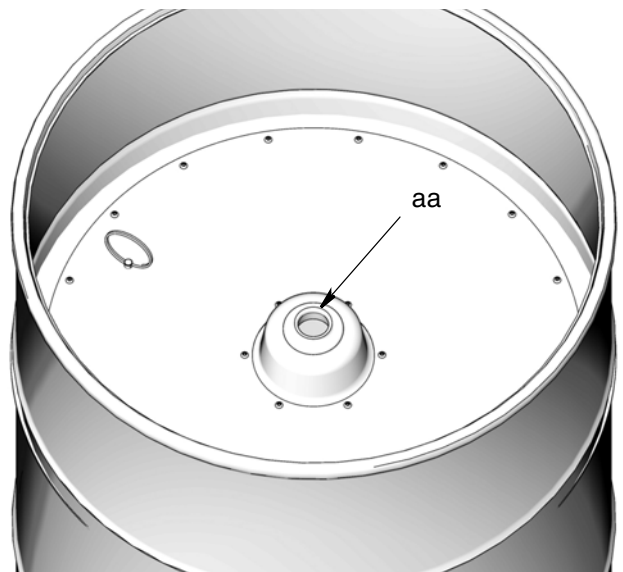

FIG. 27
6. Set follow plate (15) on top of the fresh grease (FIG. 27). Remove air by pushing down on the follow plate until the grease level is flush with the opening in the middle of the follow plate (aa).